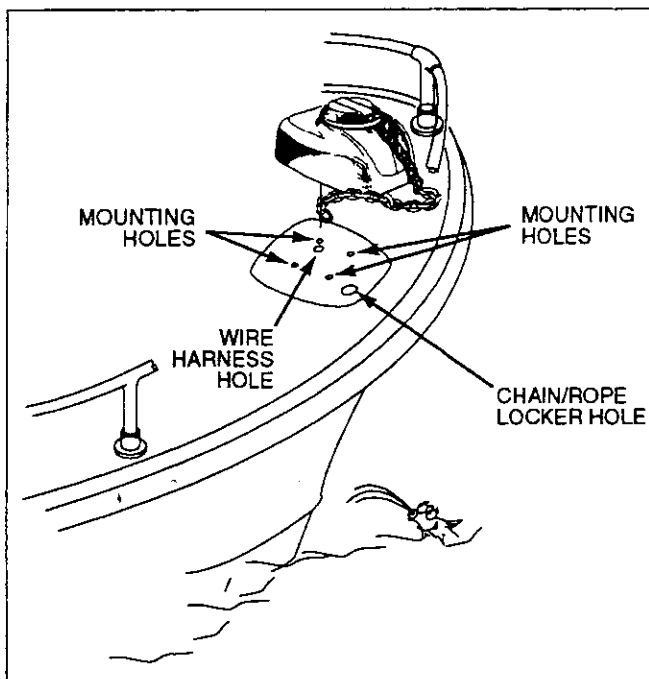

Figure 1 Mounting And Wiring Hole Locations
To mount the windlass, refer to Figure 1 and follow the procedures outlined below.
2. Spot and drill the holes as shown on the template. There are four 1/2" mounting holes, one 1-1/8" hole for the wiring harness and one 2" hole for the rope/chain hole to the locker (See Figure 1 and/or mounting template). If using the optional marine plywood base underneath, use the same mounting template for hole locations.